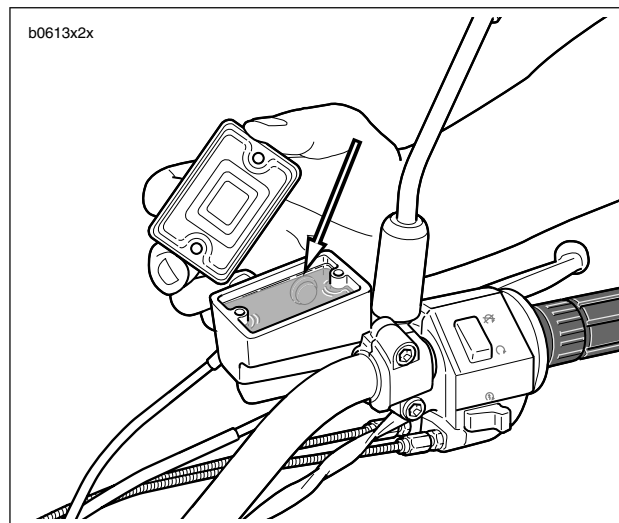

Figure 2-41. Brake Fluid Level (Standard Brake Reservoir Shown)
7. See Figure 2-41. With the master cylinder in a level position, add **D.O.T. 4 BRAKE FLUID**. Bring fluid level to within 1/8 in. (3.2 mm) of molded boss inside front master cylinder reservoir.